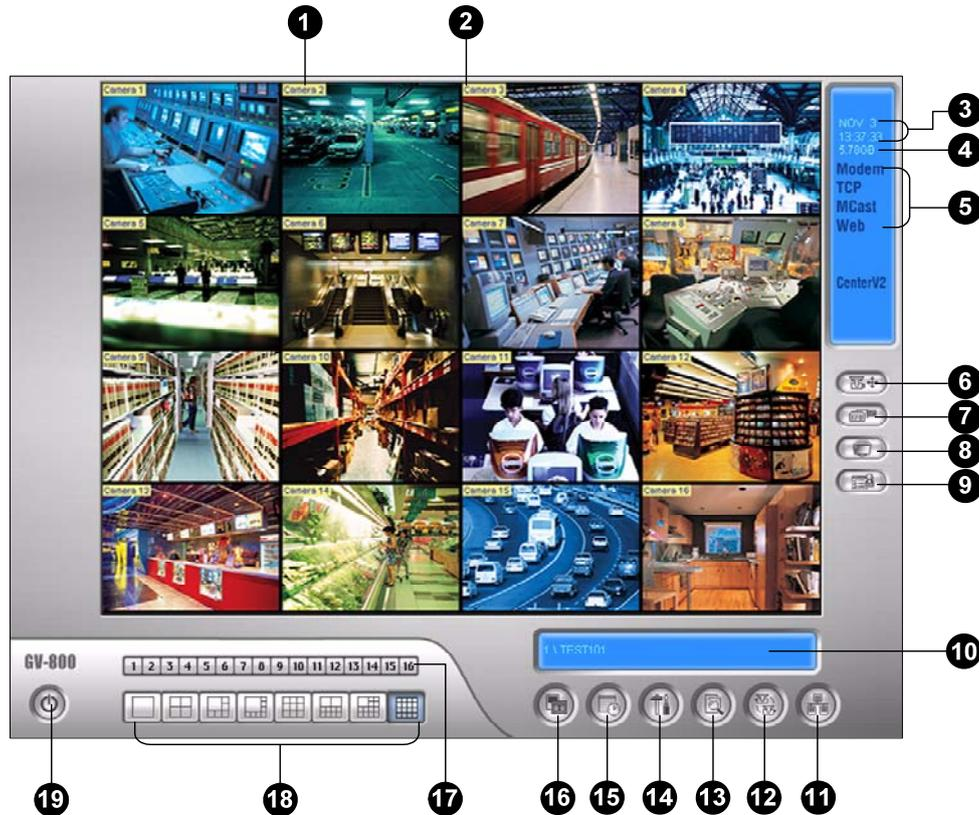

Figure 1-2
Click the **Configure** button (No.14, Figure 1-2), point to **General Setting** and select **System Configure**. You may configure cameras and global recording parameters in this dialog box. Changes made to the **General Setting** tab would apply to all available cameras attached to the system. In the **Camera Record Setting** tab, you can configure each individual camera. In the **I/O Device** tab, you can add and configure I/O devices. In the **HotLine/Network** tab, you can configure the system for connection to network or mobile.
- ⊙ **Monitor All:** Allows you to monitor all cameras and I/O (if available) at system startup. It is the same as to manually click **Monitor** button (No. 16, Figure 1-2) and select **Start All Monitoring**. (For details, see *Start/Stop Monitoring* later in this chapter).
- ⊙ **Schedule Monitor:** Allows you to monitor cameras by schedule. Alternatively you may click **Schedule** button (No. 15, Figure 1-2) and select **Schedule Start**. Refer to *Recording Schedule* later in this chapter.
- ⊙ **I/O Monitor:** Allows you to monitor all I/O devices. Alternatively you may click the **Monitor** button (No. 16, Figure 1-2), and then select **I/O Monitoring**.
- **Multicast Server:** Allows connection to IP Multicast (one of the remote application) at system startup. (Or click the **Network** button (No. 11, Figure 1-2) and select **Multicast Server**.)
- **TCP Server:** Allows connection to Remote View (another remote application) by TCP. (Or click the **Network** button (No. 11, Figure 1-2) and select **TCP Server**.)
- **WebCam Server:** Allows connection to WebCam Server at startup. (Or click the **Network** button (No. 11, Figure 1-2) and select **WebCam Server**.)
- **Modem Server:** Allows connection to Remote View by a modem. (Or click the **Network** button (No. 11, Figure 1-2) and select **Modem Server**.)
- **Connect to VSM:** Allows connection to VSM Server (Or click the **Network** button (No. 11, Figure 1-2) and select **Connect to VSM**.)
- **Twin Server:** Allows connection to Twin Server at startup. (Or click the **Network** button (No. 11, Figure 1-2) and select **Twin Server**). For more details, see *Twin DVR System* in Chapter 11.
- **Connect to CenterV2:** Allows connection to CenterV2. (Or click the **Network** button (No. 11, Figure 1-2) and select **Connect to CenterV2**.)
1. Click the **Configure** button (No.14, Figure 1-2), point to **General Setting**, and then select **System Configure**.
4. To switch between the mini and normal view, click the **Configure** button (No.14, Figure 1-2), point to **A/V Setting** and select **Mini-View Switch**.